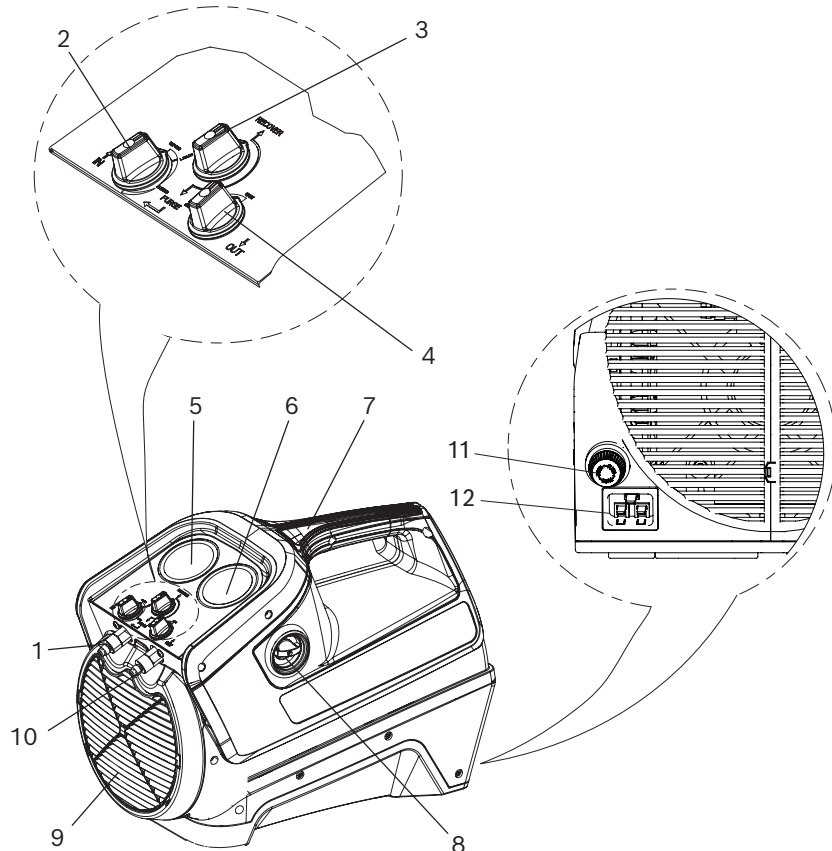

Fig.1: Overview of RG4.0
- Inlet port (Fig. 1, Pos. 1)- Used to connect the RG4.0 to an A/C or refrigeration system via a filter.
- Outlet port (Fig. 1, Pos. 10)- Used to connect the RG4.0 to the refrigerant tank.
- Inlet control valve (Fig. 1, Pos. 2) - Used to:
- Outlet control valve (Fig. 1, Pos. 4) - Used to control the outflow of the refrigerant from the RG4.0 to the refrigerant tank
- Recovery / purge valve (Fig. 1, Pos. 3) - Used to:
- Inlet pressure gauge (Fig. 1, Pos. 5) - Measures the pressure at the inlet of the RG4.0.
- Outlet pressure gauge (Fig. 1, Pos. 6) - Measures the pressure at the outlet of the RG4.0
The main switch (Fig. 1, Pos. 8) allows you to power on / off the RG4.0.